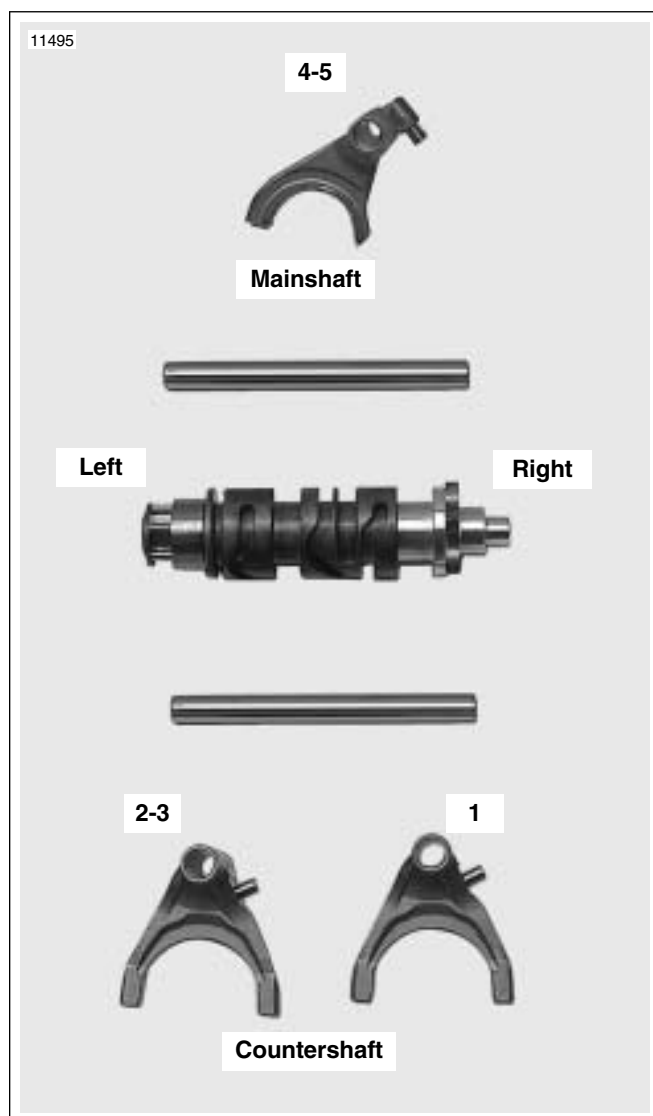

Figure 6-88. Shifter Forks, Drum and Shafts
- See Figure 6-88. Shifter design allows for one common part number for both countershaft shifter forks. As the transmission runs, each shifter fork develops a certain wear pattern with its mating parts. For this reason, it is important that each shifter fork be reinstalled in its original location.